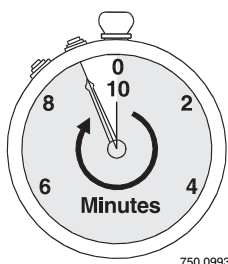

Figure 14 – Run Ten Minutes or Less
Step 5. Start pump: water should be produced in 10 minutes or less, the time depending on depth to water (not more than 20') and length of horizontal run (10' of horizontal suction pipe = 1' of vertical lift due to friction losses in the pipe) (Figure 14).